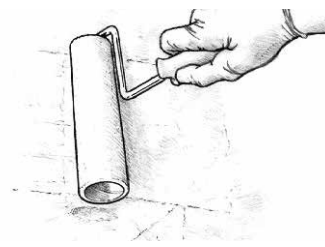

Figure 30 Roll lightly and randomly over a small area. Spread the epoxy into a thin even film.
4. Roll lightly and randomly over an area approximately 2'x2' to transfer the epoxy evenly over the area (Figure 30).